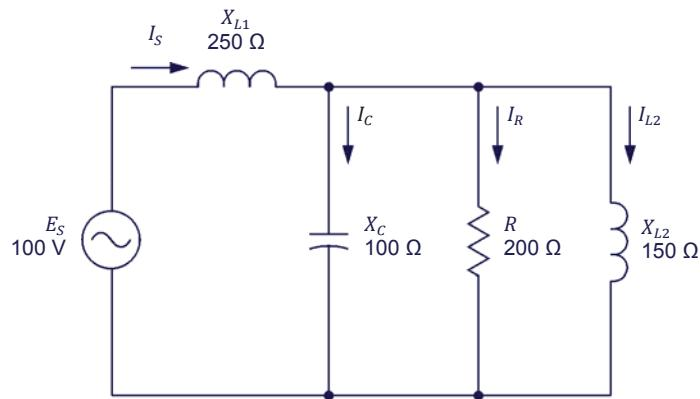

Figure 4-10. AC power circuit containing a resistor, two inductors, and a capacitor.
2. Calculate the source voltage  $E_S$  in the ac circuit of Figure 4-10, assuming that the resistor voltage  $E_R$  is still 60 V.
3. Calculate the actual total reactive power  $Q$  in the ac circuit of Figure 4-10 using the parameter values you calculated in the previous questions.
4. Calculate the actual source voltage  $E_S$  in the ac circuit of Figure 4-10 using the parameter values you calculated in the previous questions.
5. Calculate the power factor  $PF$  of the ac circuit in Figure 4-10 using the parameter values you calculated in the previous questions.